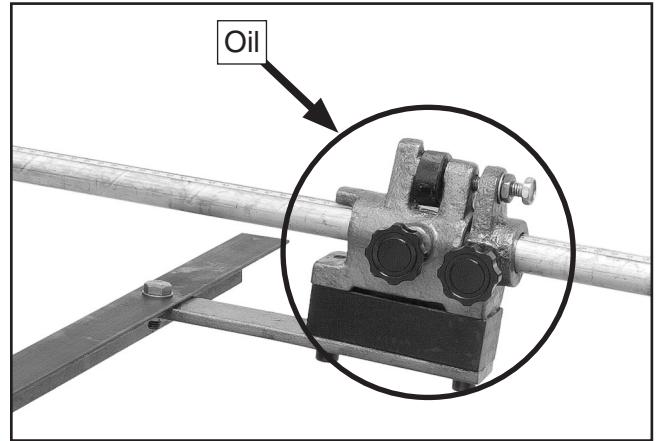

Figure 28. Micro-adjusting stop lubrication.
- Micro adjusting stop assembly (**Figure 28**).